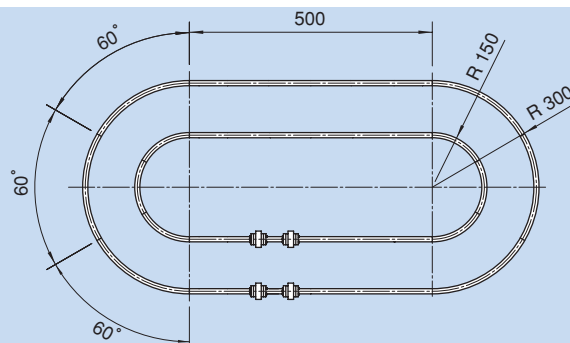

Fig.2 Example of model No.
- Model HMG does not have a seal as standard. For the model number above, Fig. 2 applies.